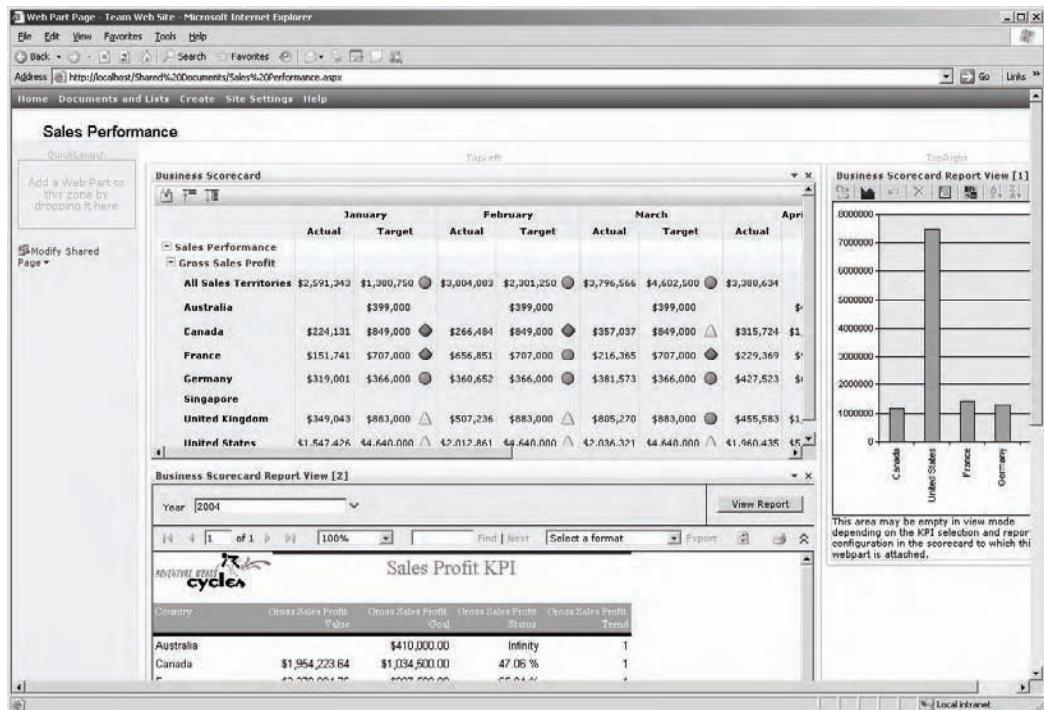

Figure 19.42 The finalized SharePoint page contains one scorecard view and two report views.
10. Change the width of the scorecard view to 800 pixels. Repeat the same with the SQL Server report view. Click the OK button to apply the settings and render the page (Figure 19.42). Experiment with the page design settings until you are satisfied with the layout.